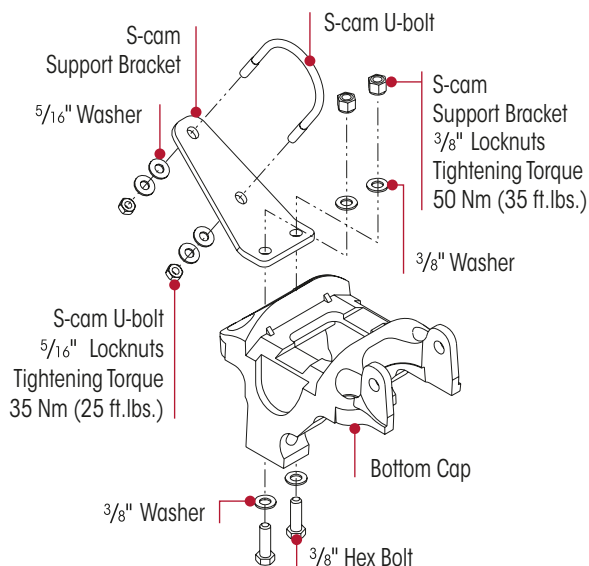

Figure 120: Install & Tighten S-Cam Fasteners
2. Install the S-cam 3/8" bolts, washers and locknuts must be installed with the bolt heads on the under- side of the bottom cap. Refer Figure 120. Tighten the locknuts to 50 Nm torque.